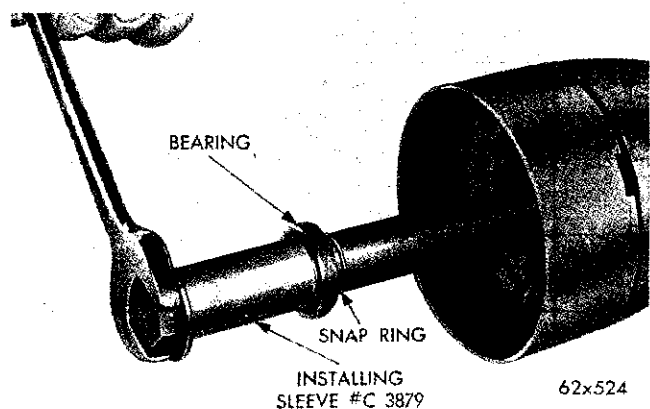

Fig. 6—Installing the Steering Column Upper Bearing
(7) Slide the steering shaft into the column assembly, and install the horseshoe shaped lower snap ring in the lower groove on the steering shaft.
(8) Place the steering column upper bearing on the steering shaft.
(9) Position the wavy upper snap ring against the top of the bearing.
(10) Place the bearing installing sleeve Tool C-3879 and the steering wheel retaining washer and nut, on the top end of the steering shaft in that order (Fig. 6).